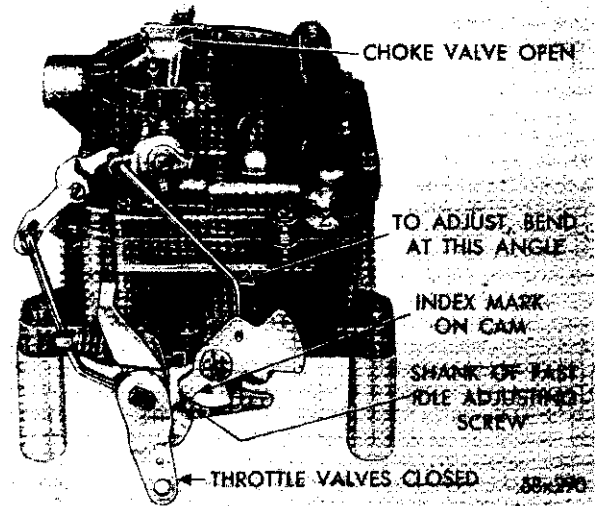

Fig. 7 - Indexing Fast Idle Cam
(1) With the choke valve held tightly closed and carburetor inverted, tighten the fast idle adjusting screw (on the high step of the fast idle cam) until wire gauge Tool T-109-29 (.020 inch) can be inserted between the primary throttle valve and the bore (side opposite idle port), as shown in Figure 6. The index mark on the fast idle cam should be in direct line with the fast idle screw shank, as shown in Figure 7.
(2) Invert the carburetor and open the throttle valves to wide open position. Close the choke valve tightly and then close the throttle valves. Release the choke valve. This will position the fast idle cam to fast idle. The index mark on the cam should line up with the center of the fast idle adjusting screw, as shown in Figure 7.